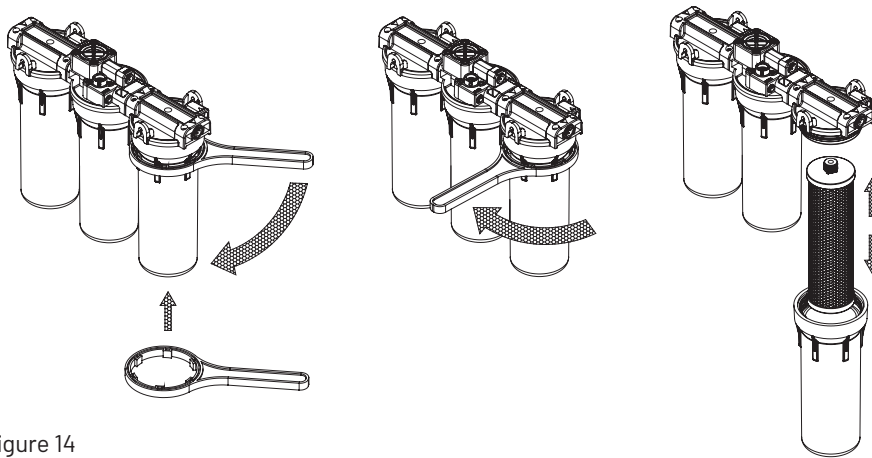

Figure 14
4. To replace the filters, use a Slim Line Spanner Wrench (not supplied) to unscrew the filter housings from the cap (see Figure 14).